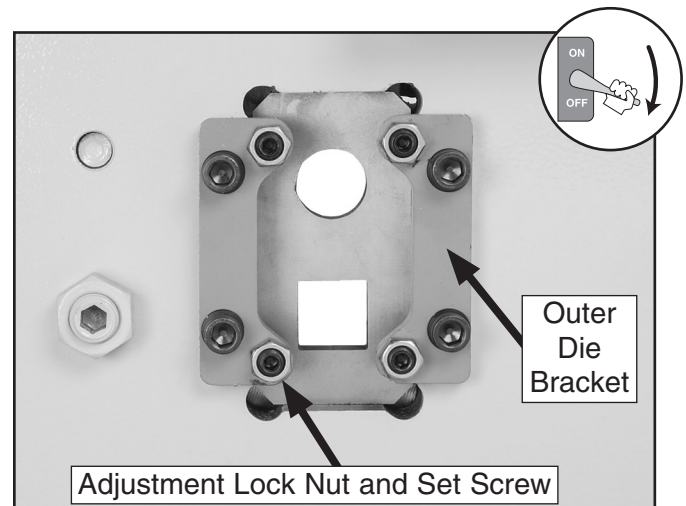

Figure 62. Angle iron shearing station die assembly.
- Use the foot actuator to pivot the beam so that the cutting holes of the dies line up, then release the pedal actuator to hold it in that position (see **Figure 62**).
11. Loosen the adjustment lock nuts on the outer die brackets (see **Figure 62**), then back out the set screws 2–3 turns.